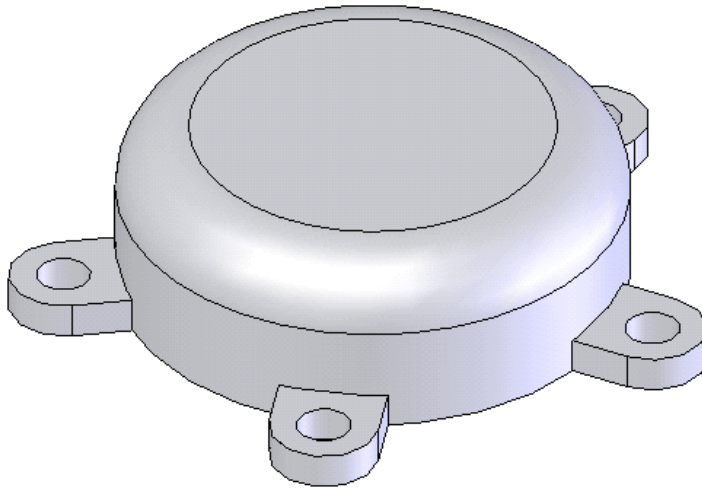

Figure 8-70 Pattern feature added to the model
- Pattern the extrude feature using the **Circular Pattern** tool, refer to Figure 8-70.
The model after creating the pattern feature is displayed in Figure 8-70.